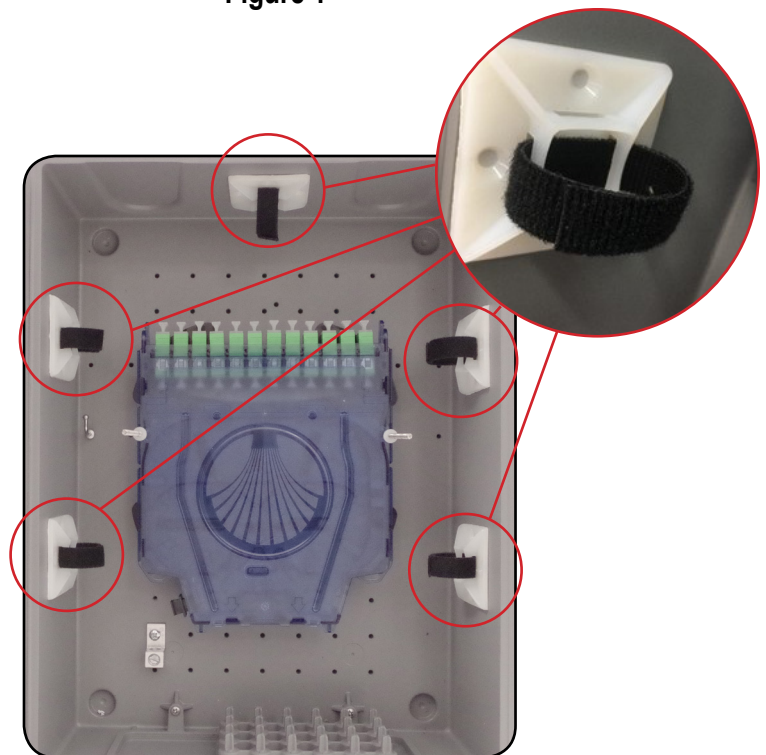

Figure 2
2. Place the 5 fiber management blocks as shown in **(Figure 2)**.